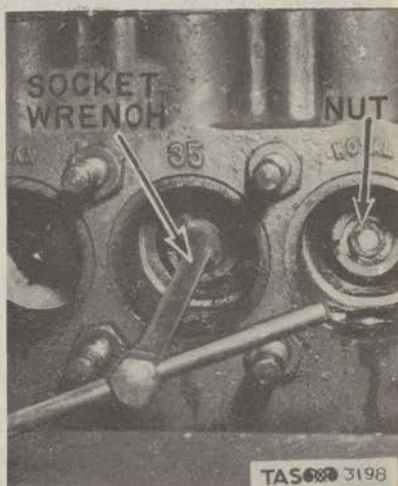

Figure 84. Removing Nut from Plunger.
(2) Remove the bronze hexagonal nut on the end of the plunger rod, using the special socket wrench. (Fig. 84)
(2) Remove plunger assemblies. (See figs. 84 and 85)